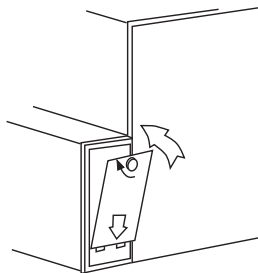
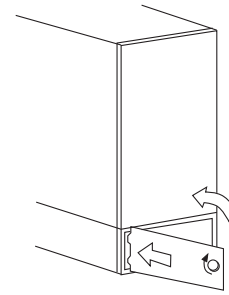

Fig. 17 – Replace Side Filter Cabinet Door
Fig. 18 – Replace Bottom Filter Cabinet Door
- Replace filter cabinet door, see Fig. 17 and Fig. 18.